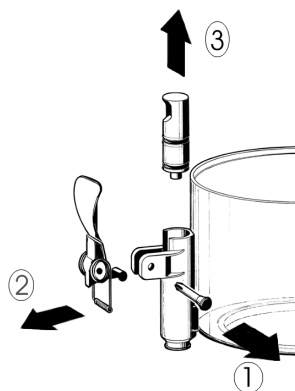

figure 1
- 3** Dismantle the faucet following the sequence shown (see fig. 1).
3 Reassemble the faucet assembly on the container in the opposite way to which it was dismantled (see fig. 1).